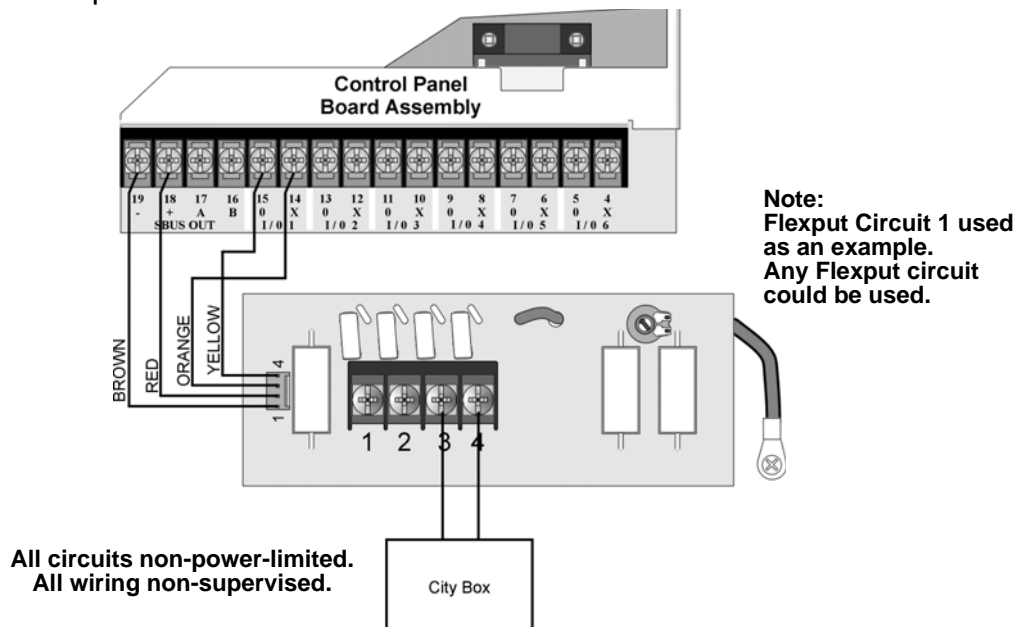

Figure 4-41 City Box Connection
2. Wire the 5220 to the control panel as shown in Figure 4-41. This drawing also shows how to connect the city box coil to terminals 3 and 4 on the 5220. Do not install an EOL resistor in the terminals of the Flexput circuit used for this application.